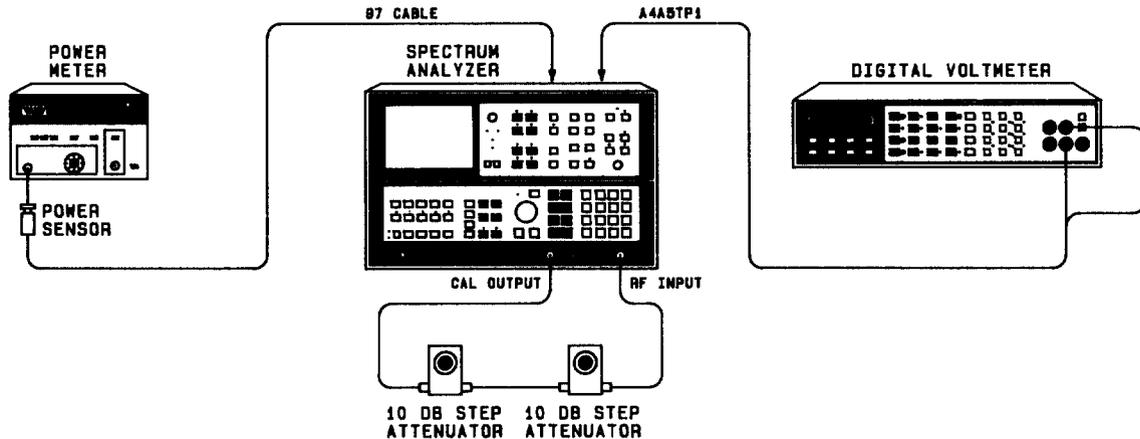

FIGURE 32. STEP GAIN AND 18.4 MHz LOCAL OSCILLATOR ADJUSTMENTS SETUP
1. Position instrument upright as shown in Figure 32 and remove top cover.